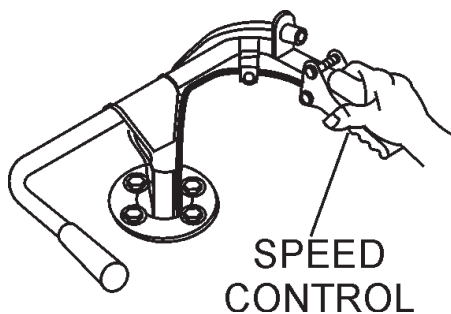

Figure 17. Speed Control Lever/Linkage
7. If the engine has started, slowly return the choke lever (Figure 17) to the **CLOSED** position. If the engine has not started repeat steps 1 through 6.
3. Check the **speed control linkage** (Figure 17) located on the right side of the handle bar. The speed control should work freely when squeezed by hand, and return to the closed position when released.
5. Slowly squeeze the speed control lever (Figure 17) slightly, for a short period of time to test the brake holding capacity. If the power buggy moves forward, adjust the brakes as outlined in the maintenance section of this manual.
2. Squeeze the **speed control lever** (Figure 17) slightly until the power buggy begins to move in a forward direction. Let the buggy travel at about 3 MPH.